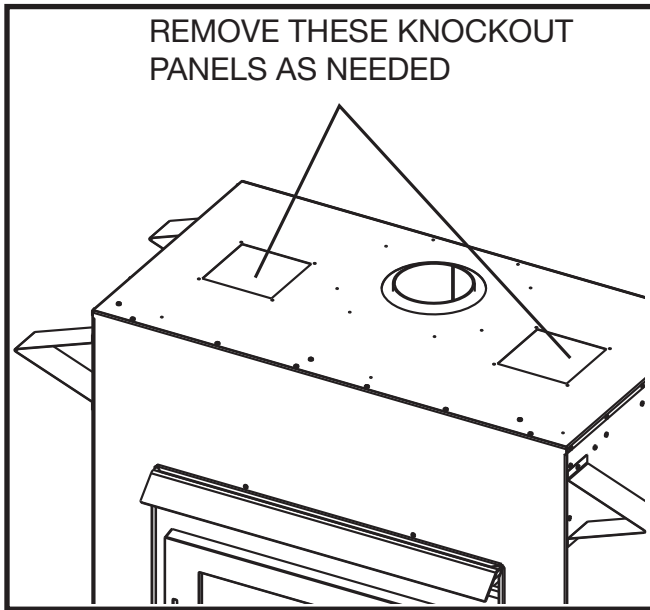

Figure 20: Knock out panels.
1. Remove the knockout panel from the top of the unit for each Remote Heat Kit you are installing (Figure 20).